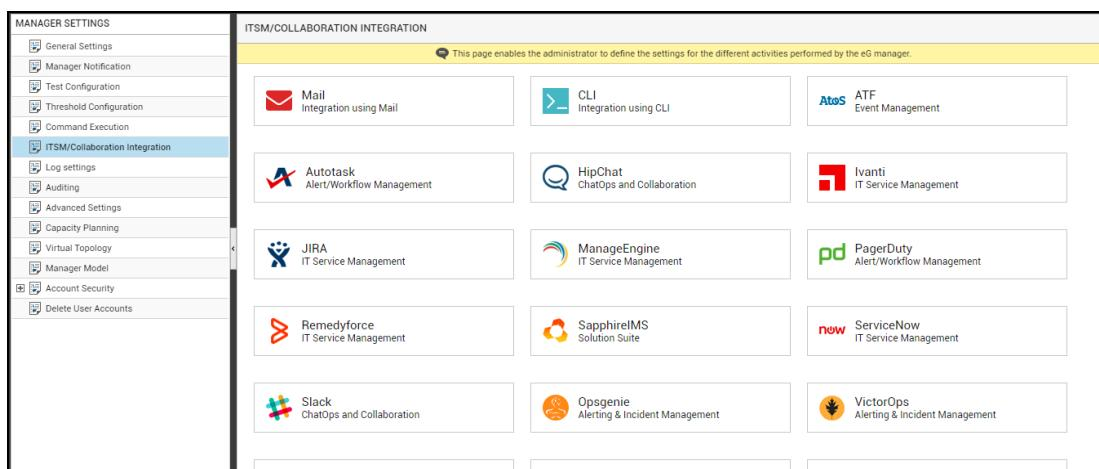

Figure 5.19: Viewing the ITSM/Collaboration tool options
- Figure 5.19 will then appear. From the **MANAGER SETTINGS** tree in the left panel of Figure 5.19, select the **ITSM/Collaboration Integration** node. The third-party ITSM/Collaboration tools that eG Enterprise can integrate with will be listed in the right panel.
4. Now, click on the **Ivanti** option in the right panel (see Figure 5.19). An **Ivanti** section will now appear in the right panel (see Figure 5.20).